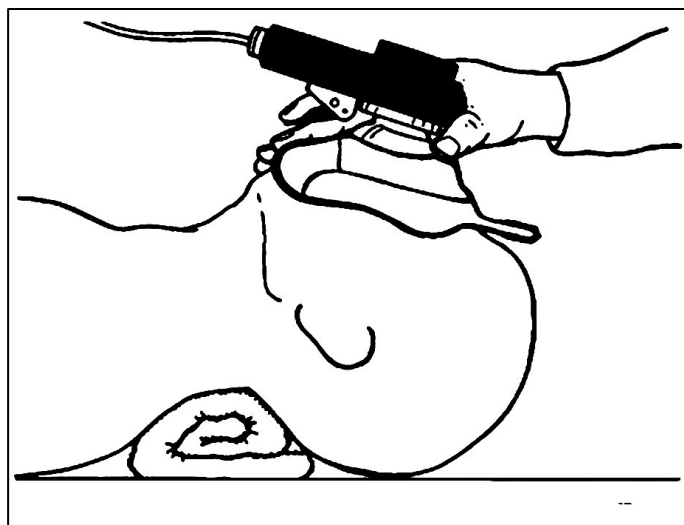

Fig. 1: Position of Mask with Trigger in use
8. Check the airway is clear and place face mask over the casualty's face ensuring a tight seal round the nose and mouth (Fig. 1).
9. Give 2 inflations to saturate the lungs with oxygen using the manual trigger (Fig. 1) watching the rise and fall of the chest at the same time.
3. Use the trigger to give TWO ventilations of the lungs (Fig. 1), continue with 15 compressions and again, 2 ventilations. Continue repeating the cycle as above.
3. Use the trigger to give ONE ventilation of the lungs (Fig. 1), continue with 5 compressions and again, 1 ventilation. Continue repeating the cycle as above.